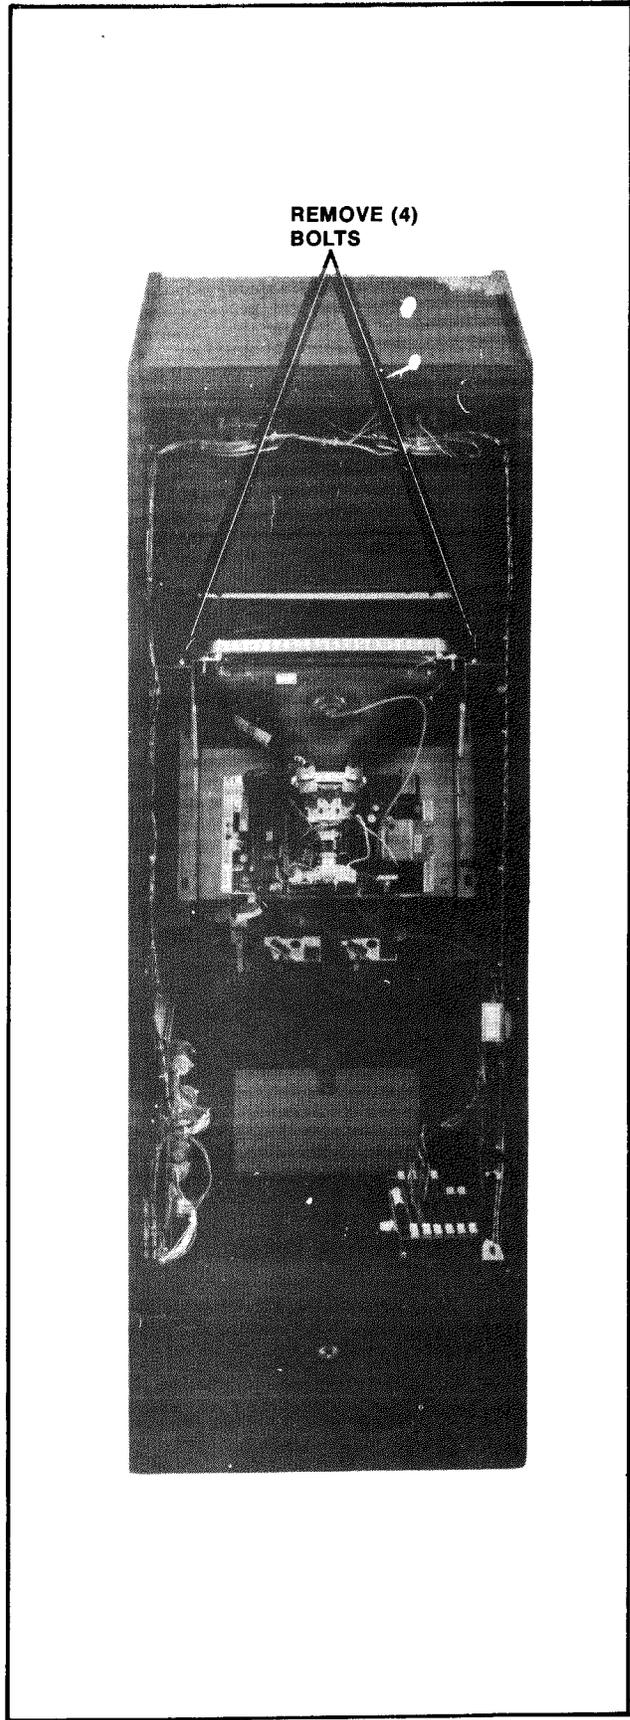

Figure 4-9 Removing the Monitor — Mini
### 2. MINI MODEL: (See Figure 4-9).
- The monitor is removed by supporting it and pulling straight back as shown in Figure 4-9.